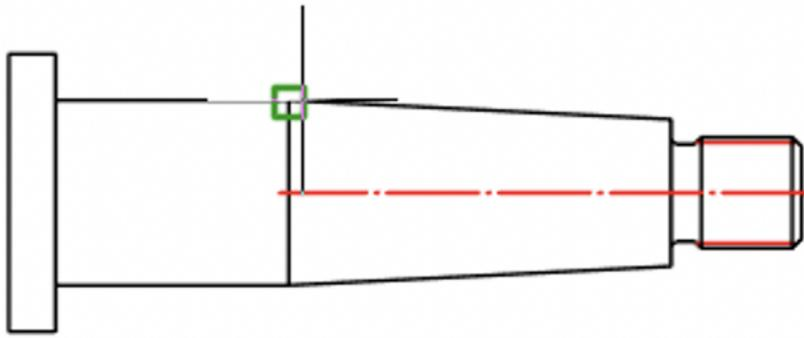

Fig. 6. Setting the largest diameter of the standard shaft end
1.6. Move the cursor to set the largest diameter of the shaft end to make it equal to the diameter of the cylindrical section. Use object snaps to do it (Fig. 6).